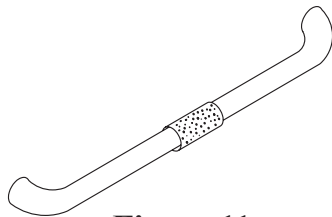

Figure 11
- Install foam grip (4) on lid handle (3). See Figure 11.